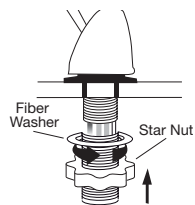

Figure 2
- ☐ From under sink, slide 2 1/4" fiber washer over faucet base. Reinstall threaded extension onto the base until snug. Thread star nut onto extension until snug (See Figure 2).